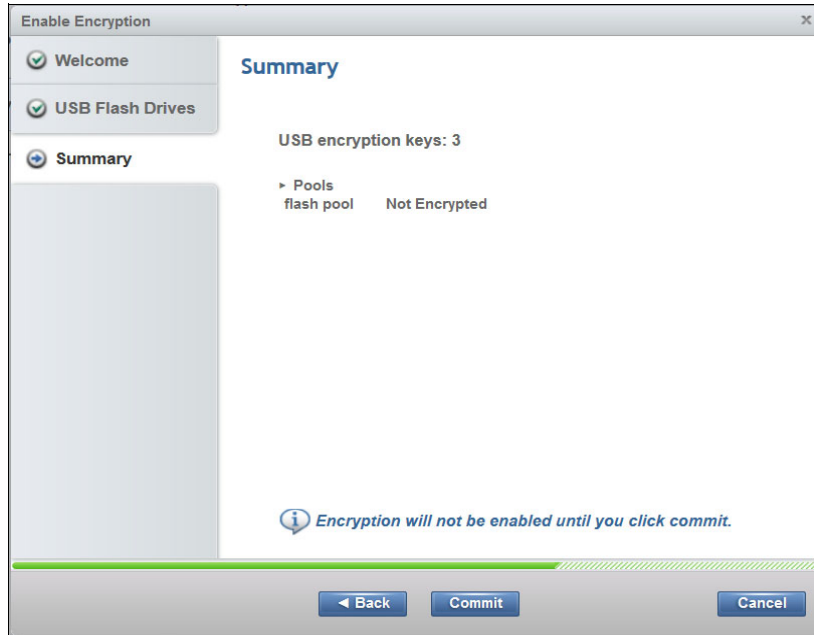

Figure 9-63 Commit to make the encryption effective
3. Click **Commit** (Figure 9-63). Encryption is not enabled until you click commit.